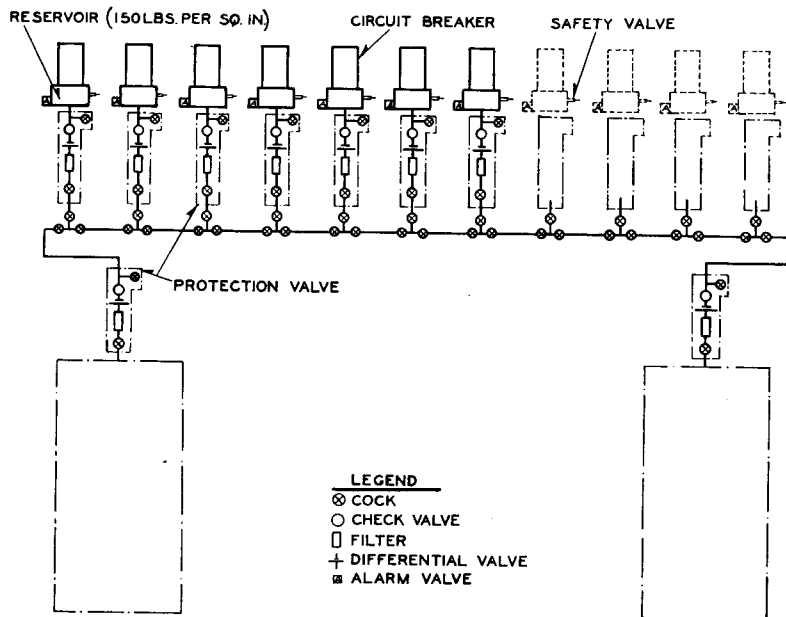

FIG. 9—TYPICAL LAYOUT FOR COMPRESSED AIR DELIVERY SYSTEM
- Fig. 9. Typical Layout for Compressed Air Delivery System (Two Compressors).
By reference to Fig. 9, it will be obvious that without such protection a break at any point in the air line would permit air storage in both supply units to be completely drained to atmosphere. A protection valve supplied with each circuit breaker prevents the breaker reservoirs from draining and a similar valve adjacent to each supply unit will likewise prevent them from draining
**Air Delivery System**—Fig. 9 shows a typical schematic arrangement of the air delivery system for a battery of circuit